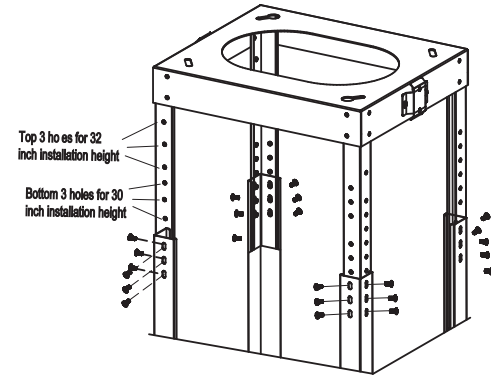

Fig.7
7. As shown Fig.7 install the top and bottom extension bars using 24 screws. As the final height of the hoods recommends that **the top 3 installation holes on the top bars for 32 inch for the gas or mixed cookers and the bottom 3 holes on the top bars for 30 inch for the electric cookers.**